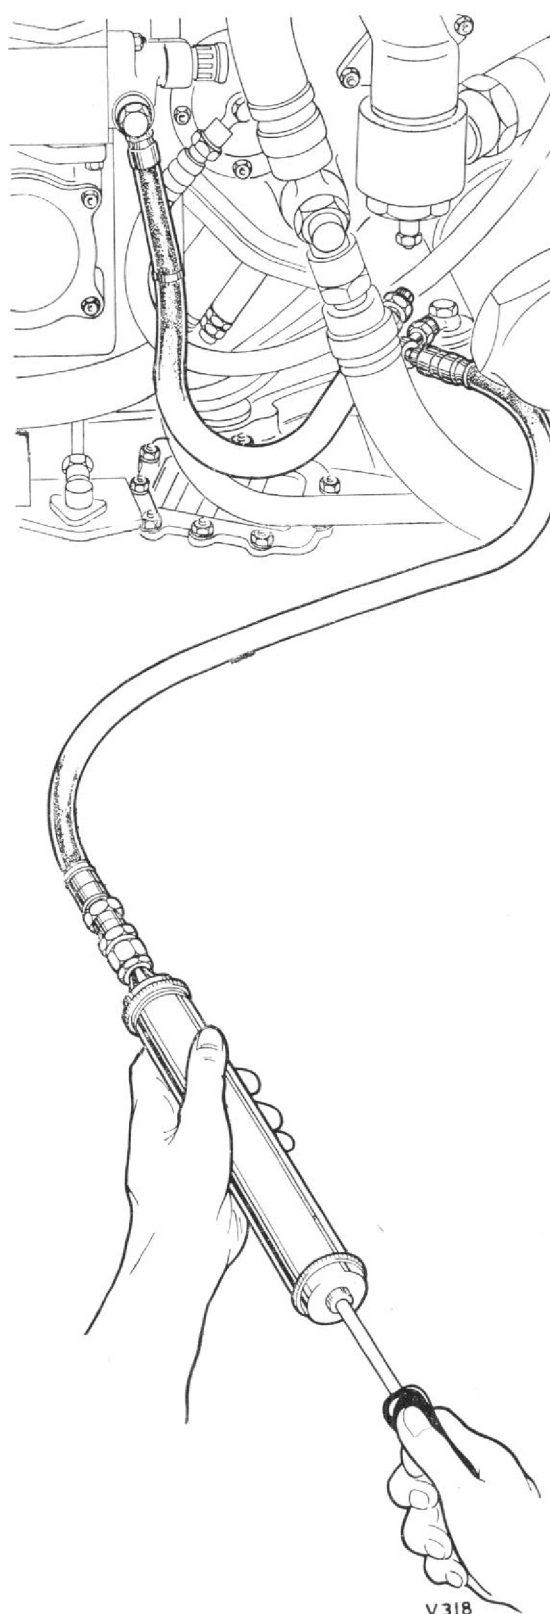

Fig. 1. Using priming syringe T.72894 to prime the rear bearing, Ghost 48 Mk. 1, pre-mod. 1095.
Fig. 2. Using oil pressure test trolley T.78458, and a flexible pipe such as item 5 of T.72894, to prime the rear bearing, Ghost 48 Mk. 1, pre-mod 1095; alternative to syringe shown in Fig. 1.
Ghost 48 Mk. 1 pre-mod. 1095. Unscrew the union nut which connects the flexible pipe from the rear bearing metering pump to the banjo on No. 10 diffuser bolt. Where mod. 1095 has been embodied, the connection is similar to that on the Ghost 48 Mk. 2, described in the next paragraph. Using a syringe such as T.72894 (Fig. 1), or an oil pressure trolley such as T.78458 (Fig. 2), or a pump such as that described on page 4, connected with a length of pipe and a suitable adapter to the banjo on the diffuser bolt, or (mod. 1095) to the rigid pipe, gently force about 100 c.c. of clean filtered oil of the correct specification into the rear bearing feed pipe. Reconnect the flexible pipe and wire-lock the union nut.